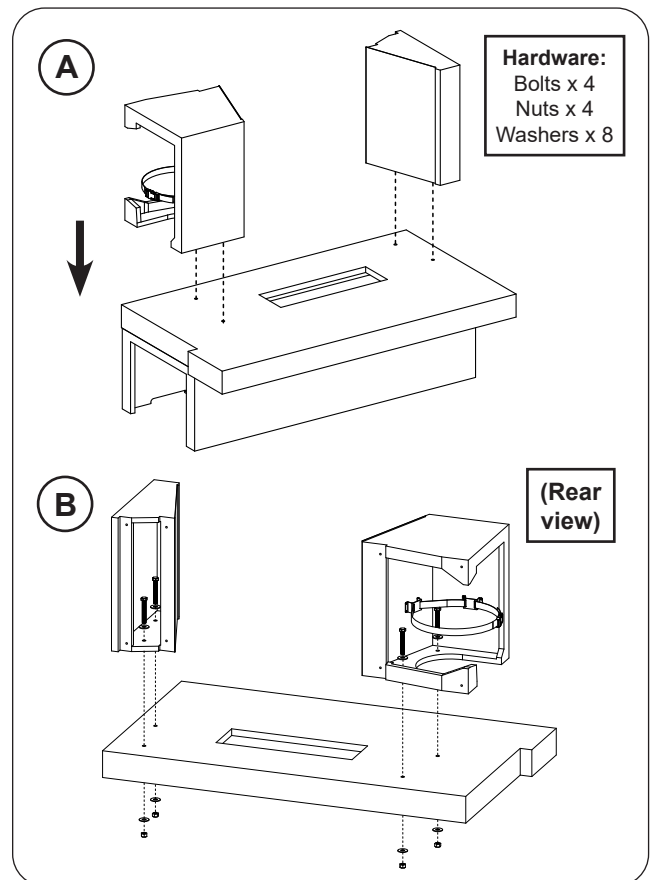

Fig. 20-3 Install left & right firebox pieces
3. Place the left and right firebox pieces onto the shelf as shown in Fig. 20-3, A.
4. Insert the hardware kits in the order shown in Fig. 20-3, B. Hand tighten, then use two $\frac{3}{4}$ " open end wrenches (or equivalent) to fasten.